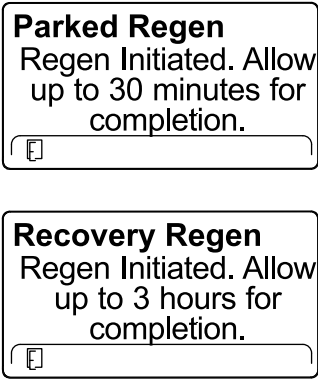

Figure 94
- The InfoCenter displays the time to complete message (Figure 94).